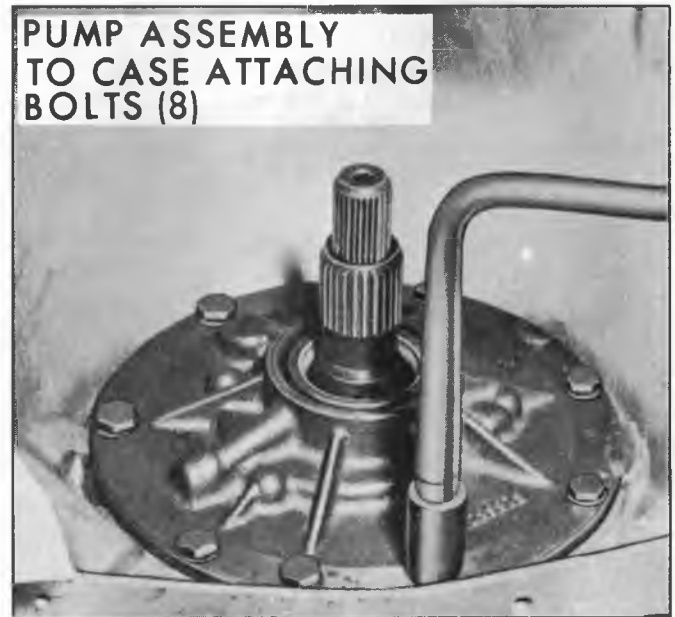

Fig. 27M--Removing Pump Attaching Bolts
1. Remove eight (8) pump attaching bolts with washer type seals (fig. 27M).